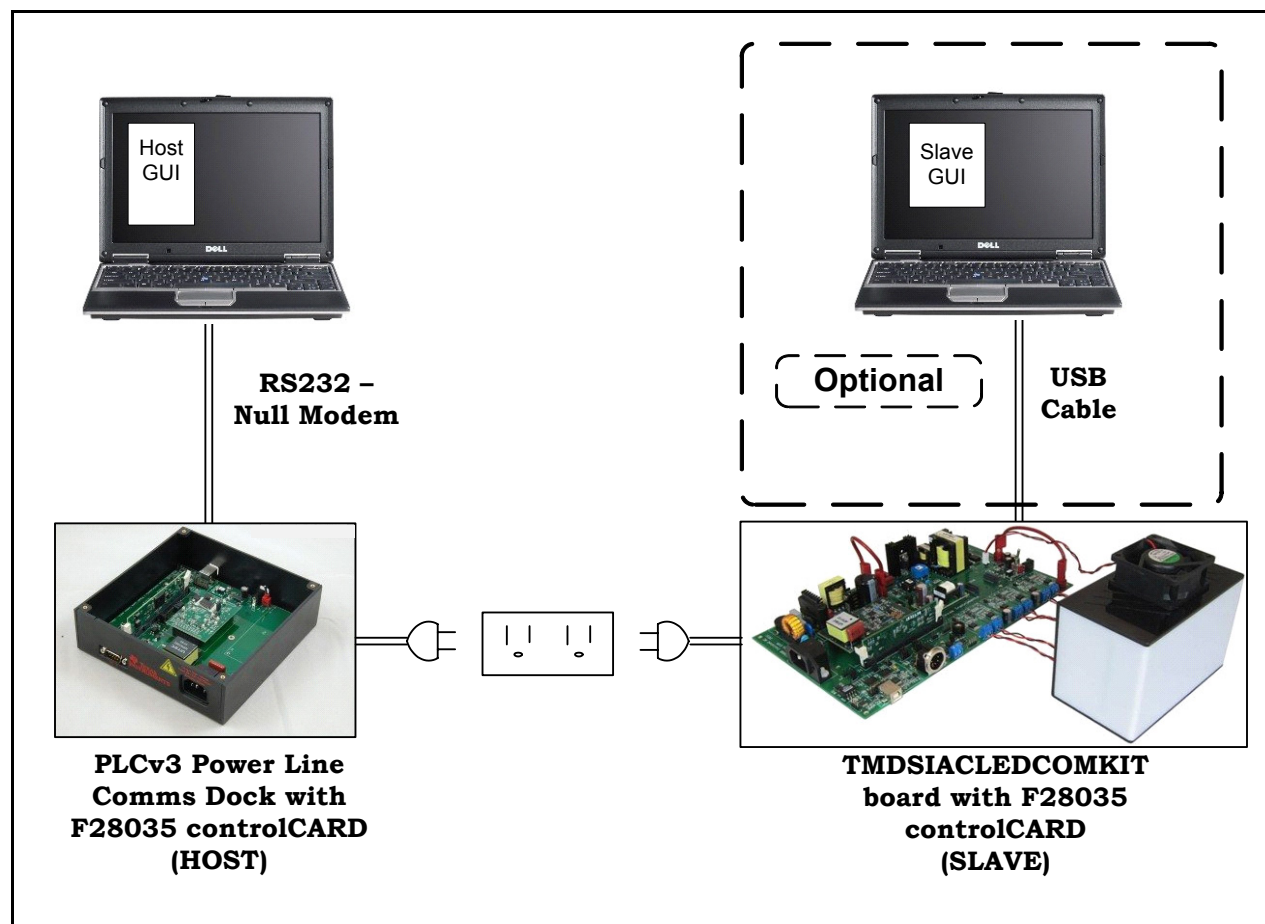

Figure 2: PLC System Diagram
Listed below in Figure 2 are some of the major connectors and features of the AC LED Lighting & Communications (TMDSIACLEDCKOMKIT) board.
- 1) Move or place the following jumpers on the TMDSIACLEDCKOMKIT board (refer to Figure 2):